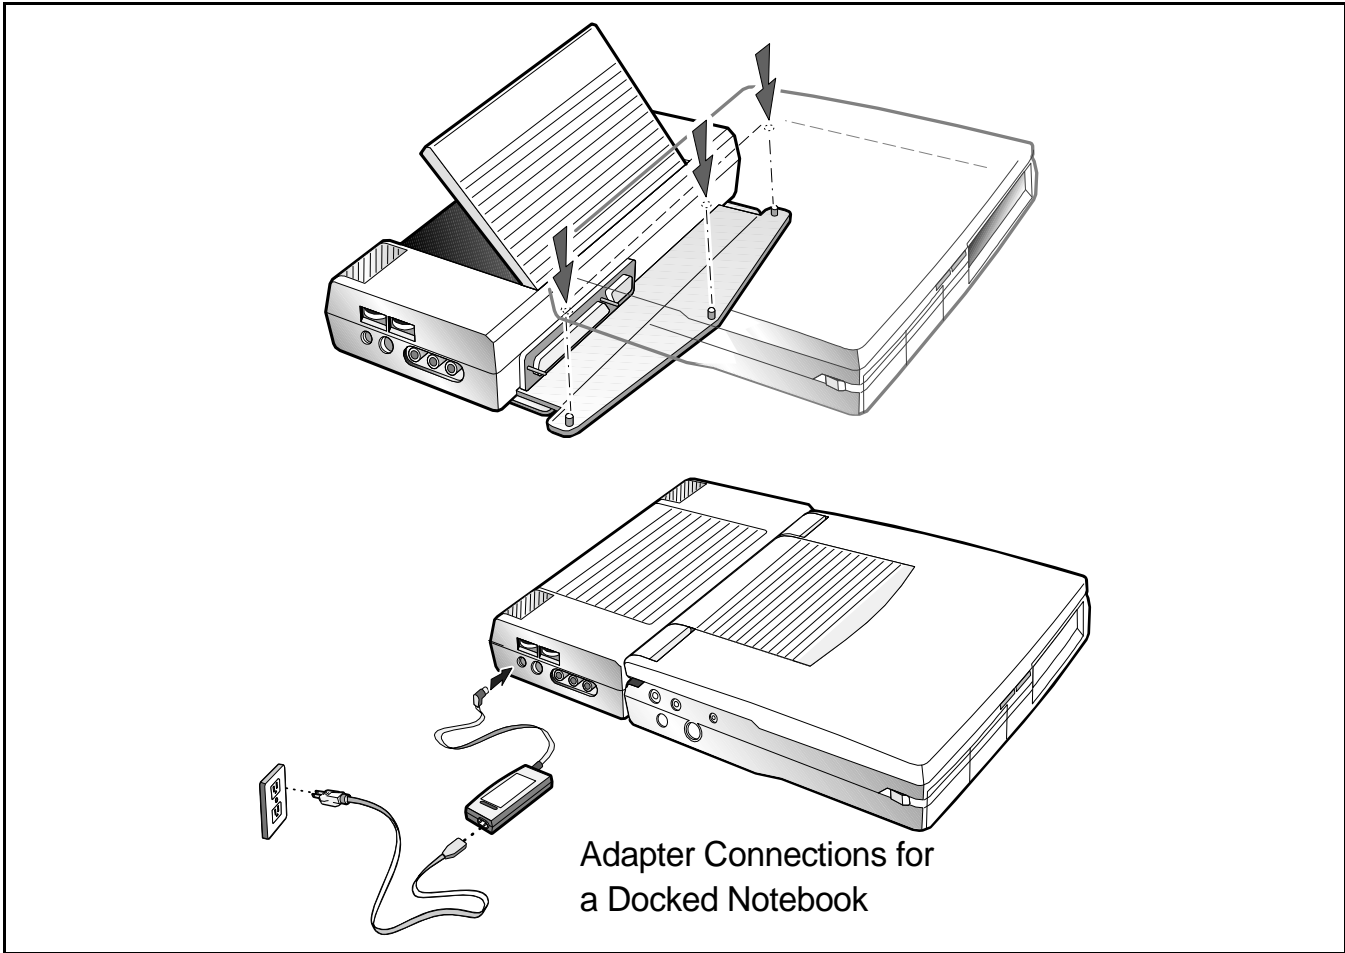

Figure 2-8 Installing the EZ-Dock/EZ-Dock Plus Port Replicator
5. Attach the port replicator to the notebook as shown in Figure 2-8 and described in following steps.
6. Lift the lever on top of the Port Replicator so that the guide pin plate is extended (see Figure 2-8).
10. Install the AC Power Adapter to the power connector on the Port Replicator as shown Figure 2-8.